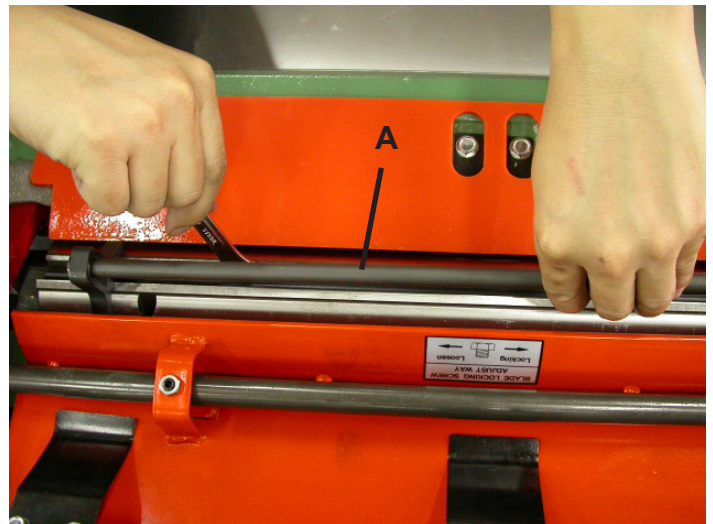

Fig 21
7. After all four knives are set with screws just snug, back out and tighten the six screws (D) Fig. 21, 22 against the slot starting with the end screws first, then the center screws until the knife is securely held in the cutterhead. Tighten remaining three knives in the same manner.